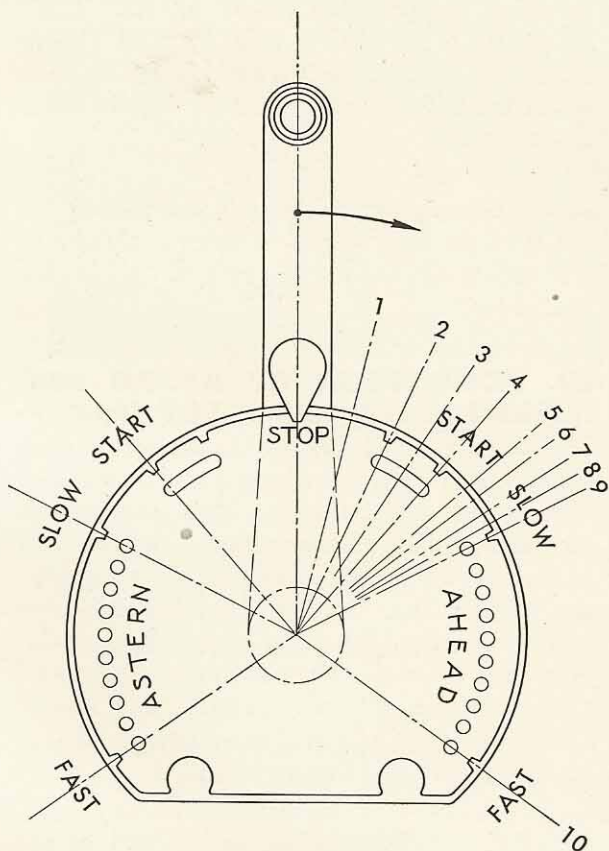
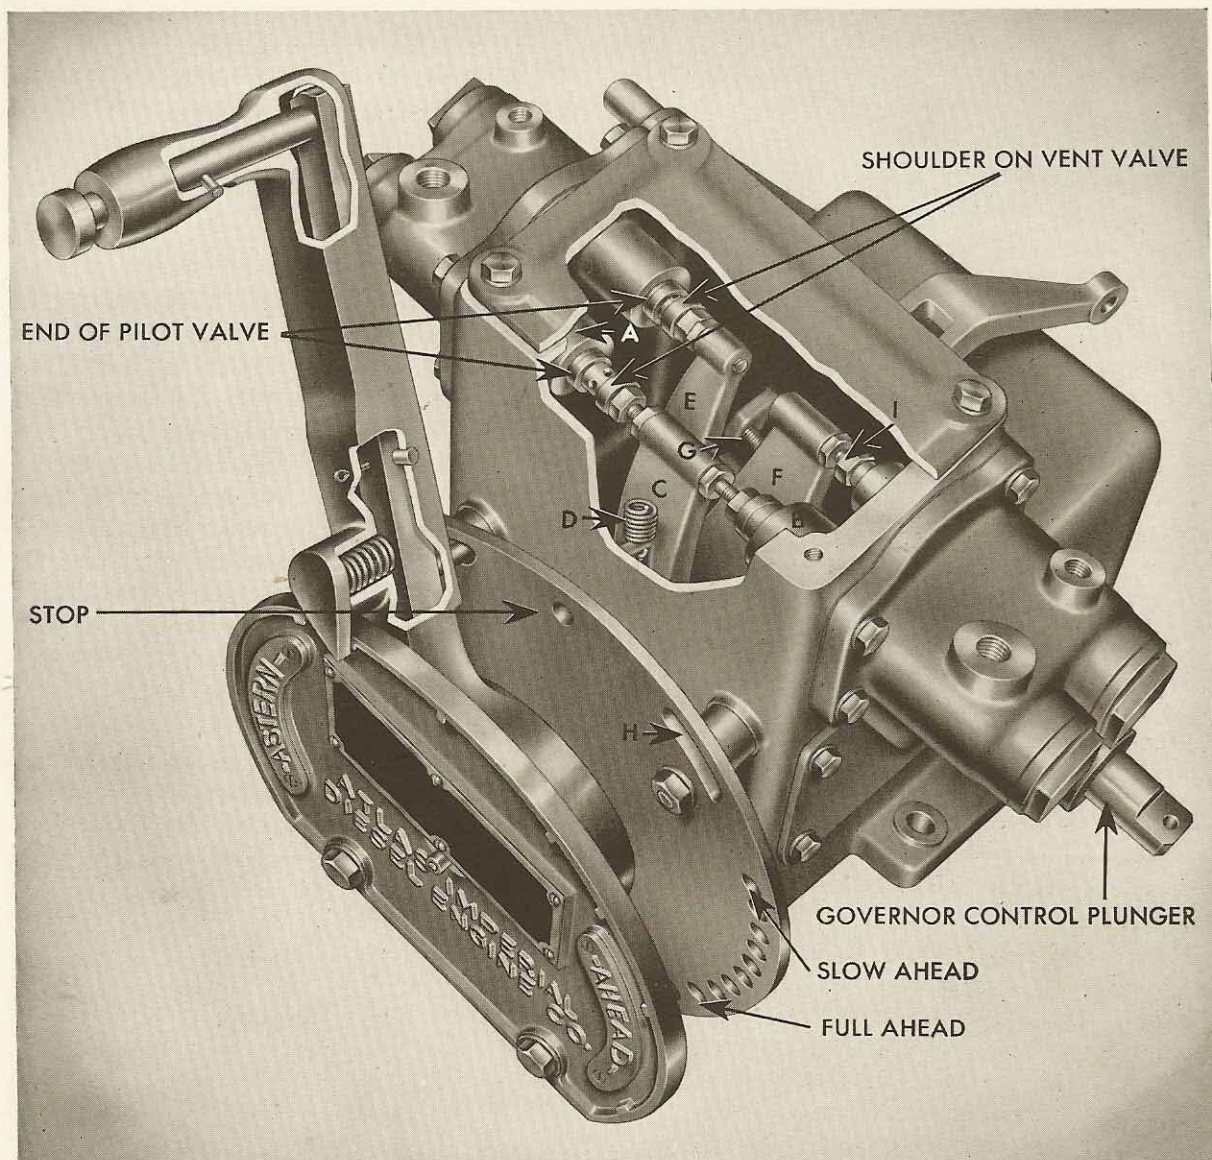
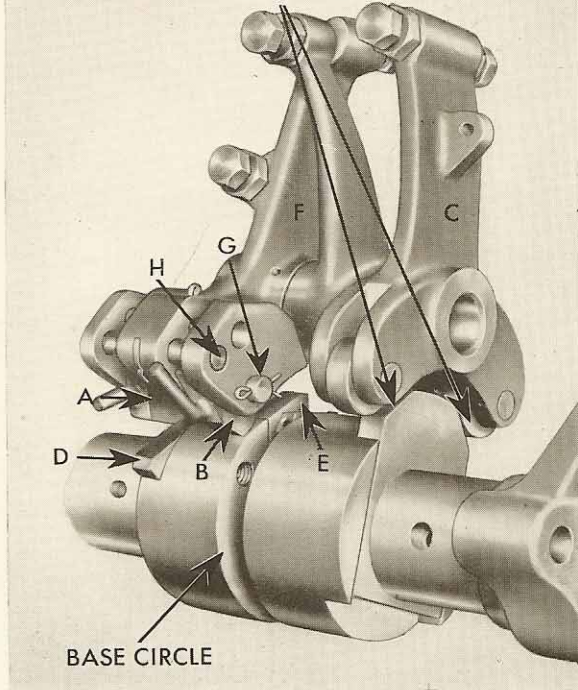

FIGURE 18-9
FIGURE 18-11
FIGURE 18-12
18. STARTING THE ENGINE BY SINGLE LEVER CONTROL: Refer to Figure 18-9, which shows the control lever with various positions marked off by numbers. As the lever is moved ahead to start the engine, the following events take place:
20. STOPPING THE ENGINE: Lower the fuel regulator valve handle to the idling position. Move the control lever to the stop position. Refer to Figure 18-9. As the lever moves past position No. 7, the fuel cut-out starts to withdraw the fuel wedges. At No. 5 position, the wedges are out and no fuel is being supplied to the cylinders. At No. 1 position, the pilot valve controlling the flywheel brake opens
23. ADJUSTMENT OF AHEAD AND ASTERN LATCH-RAM PILOT VALVES: The lever (C), Figure 18-11, is carried on a shaft which lies just above the shaft which carries the control handle. This latter shaft has cams which engage rollers that are held in the bottom part of lever (C), shown in Figure 18-12. This develops a reverse action which explains why valve (A), Figure 18-11, is opened when the lever is moved ahead and valve (B) is opened when the lever is moved astern. Lever (C) is held in a neutral position by the spring (D), Figure 18-11.
which fits over the head of the valve. The vent valve is held against the adjusting screw of lever (C), in Figure 18-11, by the vent valve spring. By turning the adjusting screws of lever (C), Figure 18-11, in or out, the vent valves will be moved in or out of the pilot valves. The operation of these valves is fully described in paragraph 32 of Section 5.
To adjust these screws, place the control lever in the stop position. Place the lever (C), Figure 18-12, in a vertical position by measuring the clearance between the rollers and their cam. The distance between each roller and the cam lobe must be equal. Set both adjusting
screws of lever (C) so that the distance between the ends of the pilot valves (A) and (B) and the shoulders on the vent valves, which are shown in Figure 18-11, is exactly $\frac{7}{32}$ inch. The total movement of lever (C), each side of neutral, is $\frac{3}{8}$ inch. It requires $\frac{7}{32}$ inch travel to close the vent valve, which leaves $\frac{5}{32}$ inch of travel to open the pilot valve.
24. ADJUSTMENT OF THE BRAKE PILOT VALVE: The flywheel brake is actuated by a single-acting air piston and is released by a spring. Only one pilot valve, therefore, is necessary to admit and vent the air to the cylinder. Lever (E), Figure 18-11, con-
trols this valve, which is identical with the other pilot valves of the unit. Place the control lever in any of the running positions and set the adjusting screw in lever (E), Figure 18-11, so that the end of the pilot valve is $\frac{7}{32}$ inch from the shoulder on the head of the vent valve.
25. ADJUSTMENT OF THE ROCKER-SHAFT AIR RAM PILOT VALVE: Lever (F), Figure 18-11, should first be located in a position half way between the cams which operate it for ahead and astern. There is an adjustment screw (G), Figure 18-11, on this lever which rests against a boss extending out from the side of the control housing. Move the control lever toward ahead starting position. At the exact point where lever (F) STARTS TO MOVE, scribe a line on the face plate of the control unit directly under the pointer on the handle.
plate at the exact point where lever (F) starts to move. Measure the distance from the stop mark on the face plate to each one of the scribe marks. By adjusting the screw (G), Figure 18-11, the lever can be so positioned that these measurements will be alike. Be sure to tighten the lock nut when this adjustment is complete.
Place the control lever half way in the air starting slot (H), Figure 18-11. With the control lever held in this position, set the adjusting screw (I), Figure 18-11, so that the shoulder on the vent valve is just touching the end of the pilot valve.
Reference to Figure 18-12 will show two pawls (A) and (B) which engage the two cam lobes (D) and (E). The two pawls act as ratchets in the following manner: Pawl (B) is hinged on pin (G) and is stopped against pin (H). In this illustration the control lever is in the stop position. Assume that the control lever is moved to the left, toward the astern starting slot. At position (4), Figure 18-9, the pawl (B) will have climbed the lobe (E), thereby moving the lever (F) and opening the pilot valve which controls the rocker-shaft ram.
At position (6), Figure 18-9, the pawl will drop off the end of the lobe, closing the pilot valve. During any further movement of the control lever to the left, the pawl will ride on the base circle of the cam. When the control lever is moved back to the stop position from the run astern position, the pawl (B) comes against the steep side of the lobe (E). The short lever extending out from pawl (B) is attached to the housing by a light spring. This spring allows the pawl to flip over the cam lobe without moving the lever. This explains how the control lever can be brought from run position to the stop position without opening the rocker-shaft ram pilot valve.